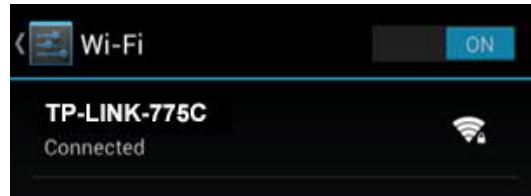

Figure 60: Connectivity Confirmation Screen
6. A verification message appears, showing that the Android device is connected to the router. (Figure 60)